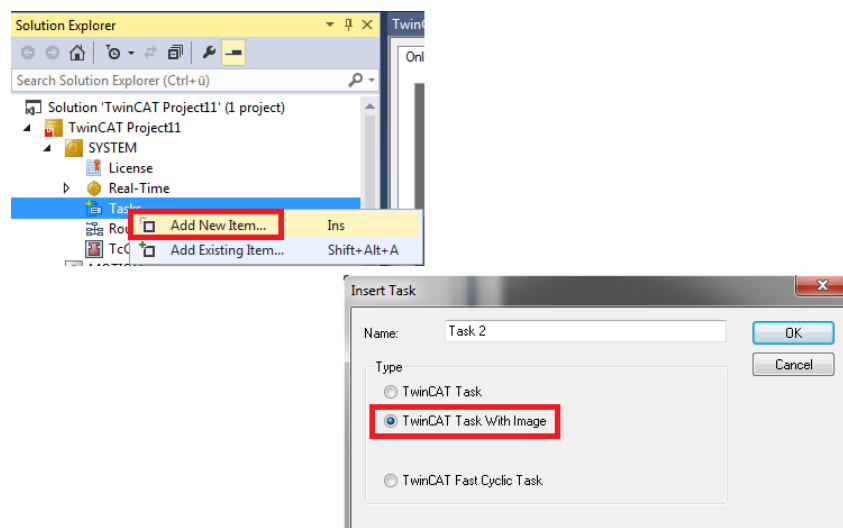

Figure 20: create an I/O task
- a. Create a new real-time I/O Task (Figure 20).